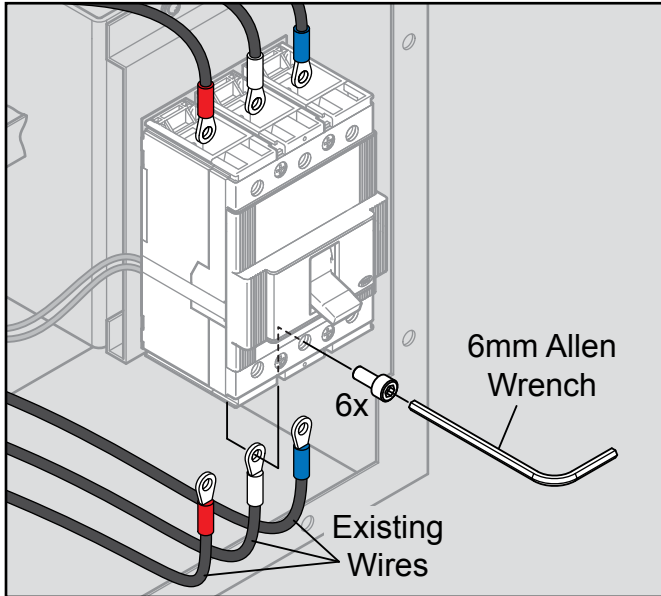

**Figure 10. Splice Auxiliary Wires**
6. Place ends of new C1 wire and existing C1 wire into opposite ends of a butt splice and crimp. Repeat for C2 wires. See Figure 10.